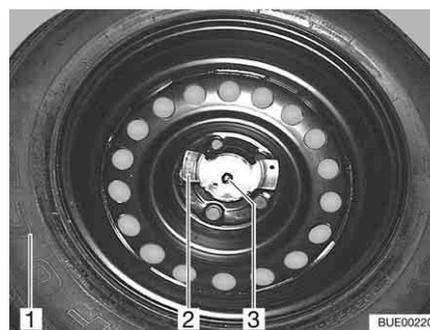

Fig. 236 Spare wheel fixture
- Unscrew both nuts (Fig. 236,2 and 3).
- Remove the spare wheel (Fig. 236,1) from the spare wheel support.